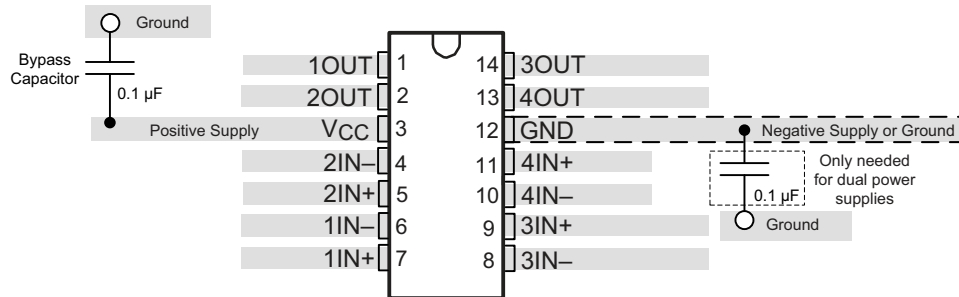

图 7-3. Comparator Board Layout
- To minimize supply noise, place a decoupling capacitor (0.1 μ F ceramic, surface-mount capacitor) as close as possible to V_S as shown in 图 7-3.